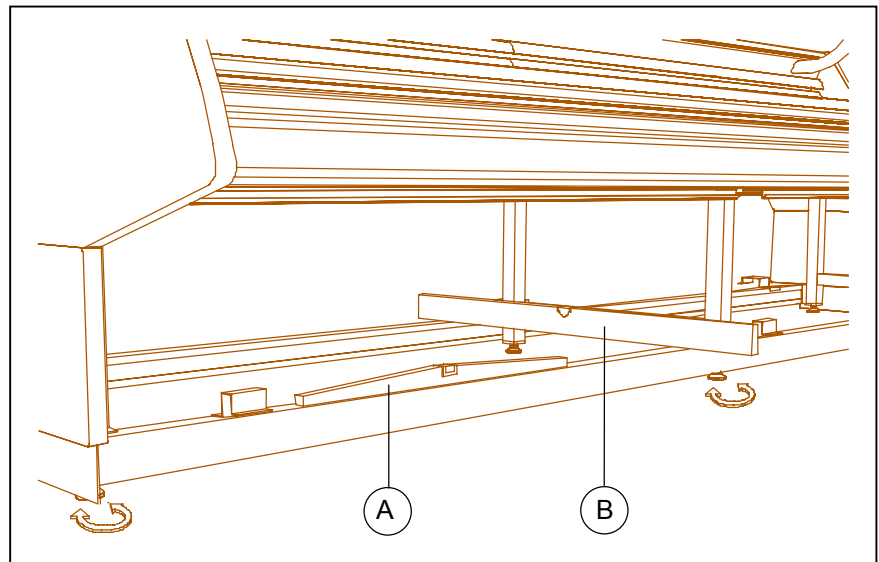

Figure 6
- on the longitudinal bars of the support frame (see figure 6).